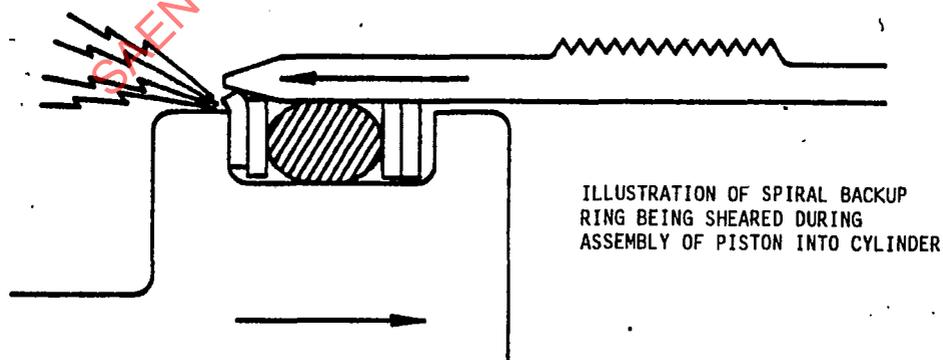

FIGURE 9 - Spiral Backup Rings
- 5.3.2 Care must be taken during assembly of hydraulic or pneumatic components fitted with spiral backup rings to prevent "shearing" of one end of the ring as the ring engages the rod or cylinder bore. See Figure 9.